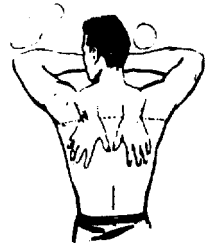

FIGURE 1
1. Position of the subject (See Fig. 1)